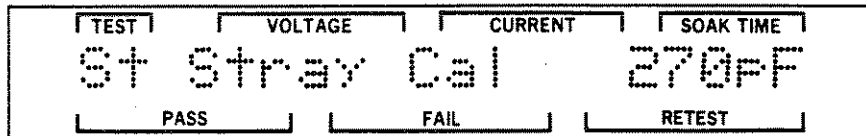

Figure 3-35. Stress Test Stray Calibration Screen
STEP 3. Press the DOWN pushbutton to display the Stress Test Stray Calibration screen. This calibration (and the calibrations that follow) cannot be performed until the installation has been completed. Figure 3-35 is an example of this screen. For information on performing this and the other calibrations, refer to CALIBRATION, Section 5.2. For information on installing the instrument, refer to INSTALLATION, Section 7.